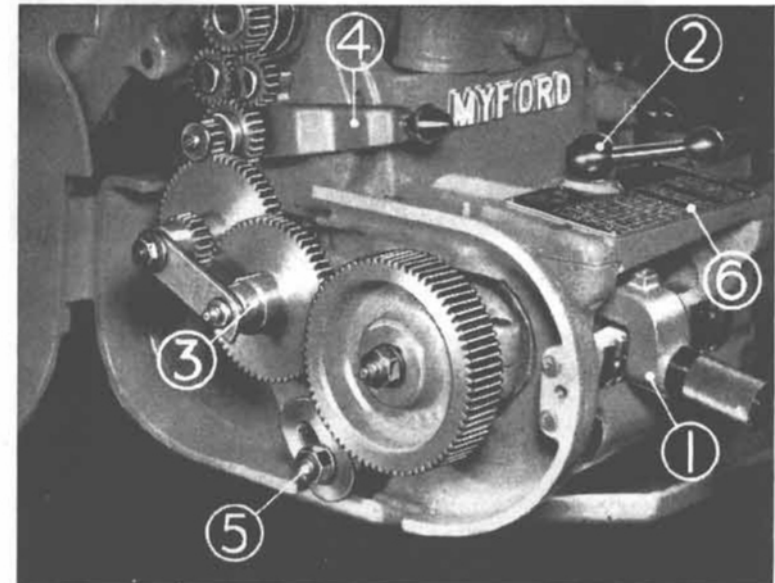

Fig. 7. Quick Change Gear Box Controls. 7
The Myford gear box is designed for smooth and easy operation. To obtain the various threads and feeds it is only necessary to arrange the levers of the gear box and the reversible cluster gear, as indicated on the Chart (6) Fig. 7.
The SELECTOR (1) selects any one of the eight ratios available from the 'cone' of gears on the lower shaft. The indexing position of the lever is always directly below the column on the chart which contains the thread or feed desired. (See Fig. 7).
- (1) Disengage tumbler reverse.
- (2) Set reversible cluster, 3 Fig. 7, in screwcutting position, i.e. with smaller gear (19 teeth) innermost.
- (3) Set lever, 2 Fig. 7, on top of box, in a position giving disengagement of gearing.
- (4) Set selector, 1 Fig. 7, in 8 T.P.I. position.
- (A) Gripping on the 8 T.P.I. threaded portion it should be possible to rotate the leadscrew.